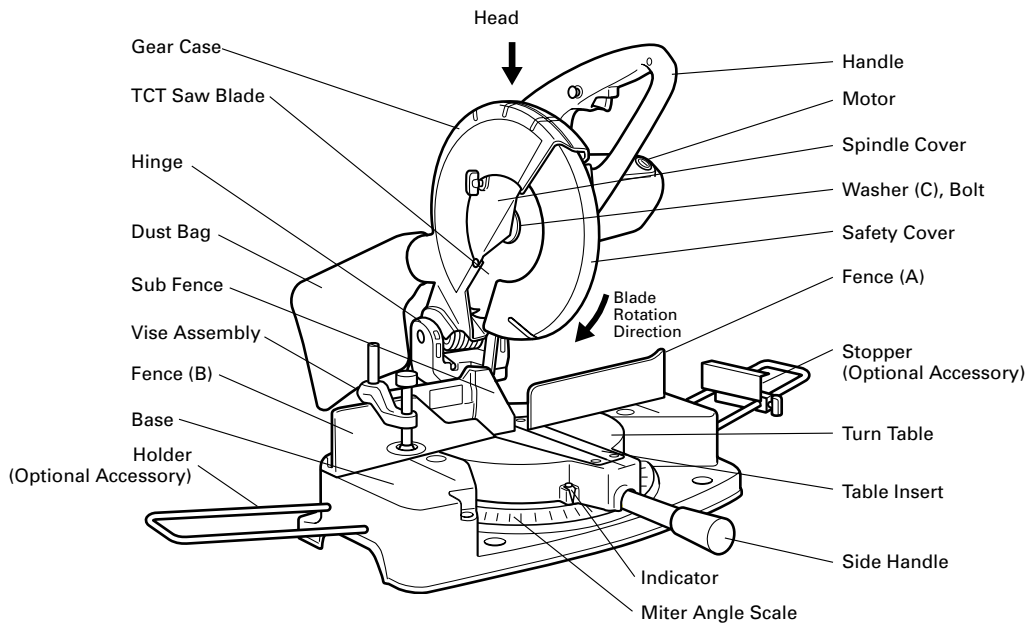

Fig. 1
When the power tool is prepared for shipping, its main parts are secured by a locking pin. Move the handle (see Fig. 1) slightly so that the locking pin can be disengaged. During transport, lock the locking pin into the gear case.
**NOTE:** Lowering the handle (see Fig. 1) slightly will enable you to disengage the locking pin more easily safely. The lock position of the locking pin is for carrying and storage only.
Attach the dust bag, holder, and vises as indicated in Fig. 1.
This power tool is equipped with a sub fence. (See Fig. 1)